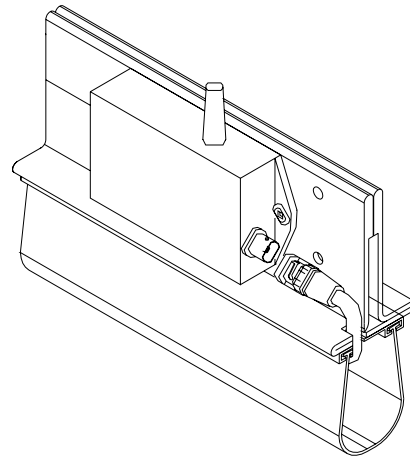

FIG. 9
- attach using hardware provided attach Bottom Bar Controller to the front right side of the bottom bar (Figure 9).